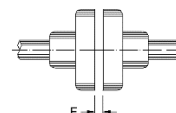

Figure 4.15: Axial clearance of the coupling (E)
Align the shaft ends carefully, and, whenever possible, use flexible coupling, leaving a minimum clearance (E) of 3 mm between the couplings, as shown in Figure 4.15.